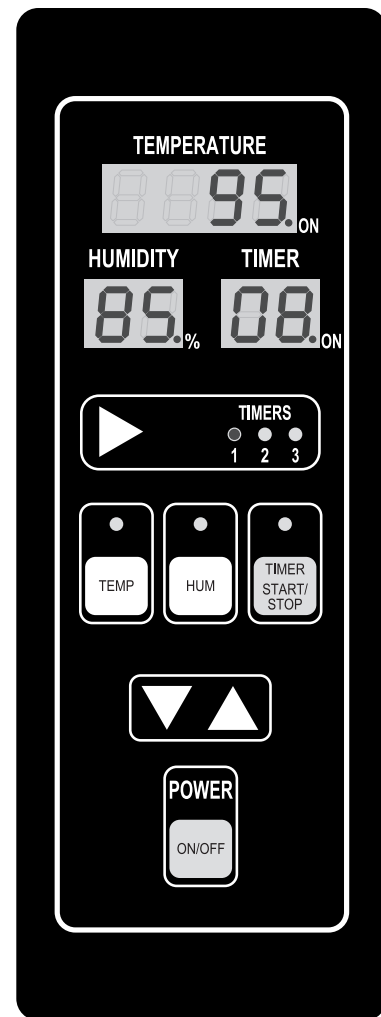

Fig. 7
1. Press POWER ON/OFF button (Fig. 7). All displays are now illuminated.